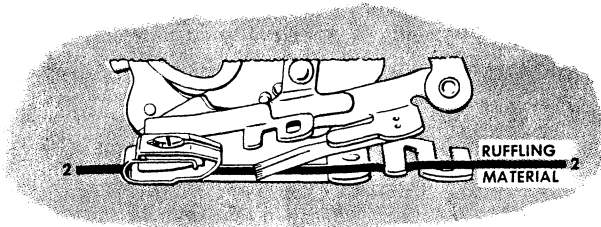

Fig. 63. Correct Position for Material to be Ruffled
3. Insert material to be ruffled between two blue blades and under separator guide (Line 2, Fig. 63).